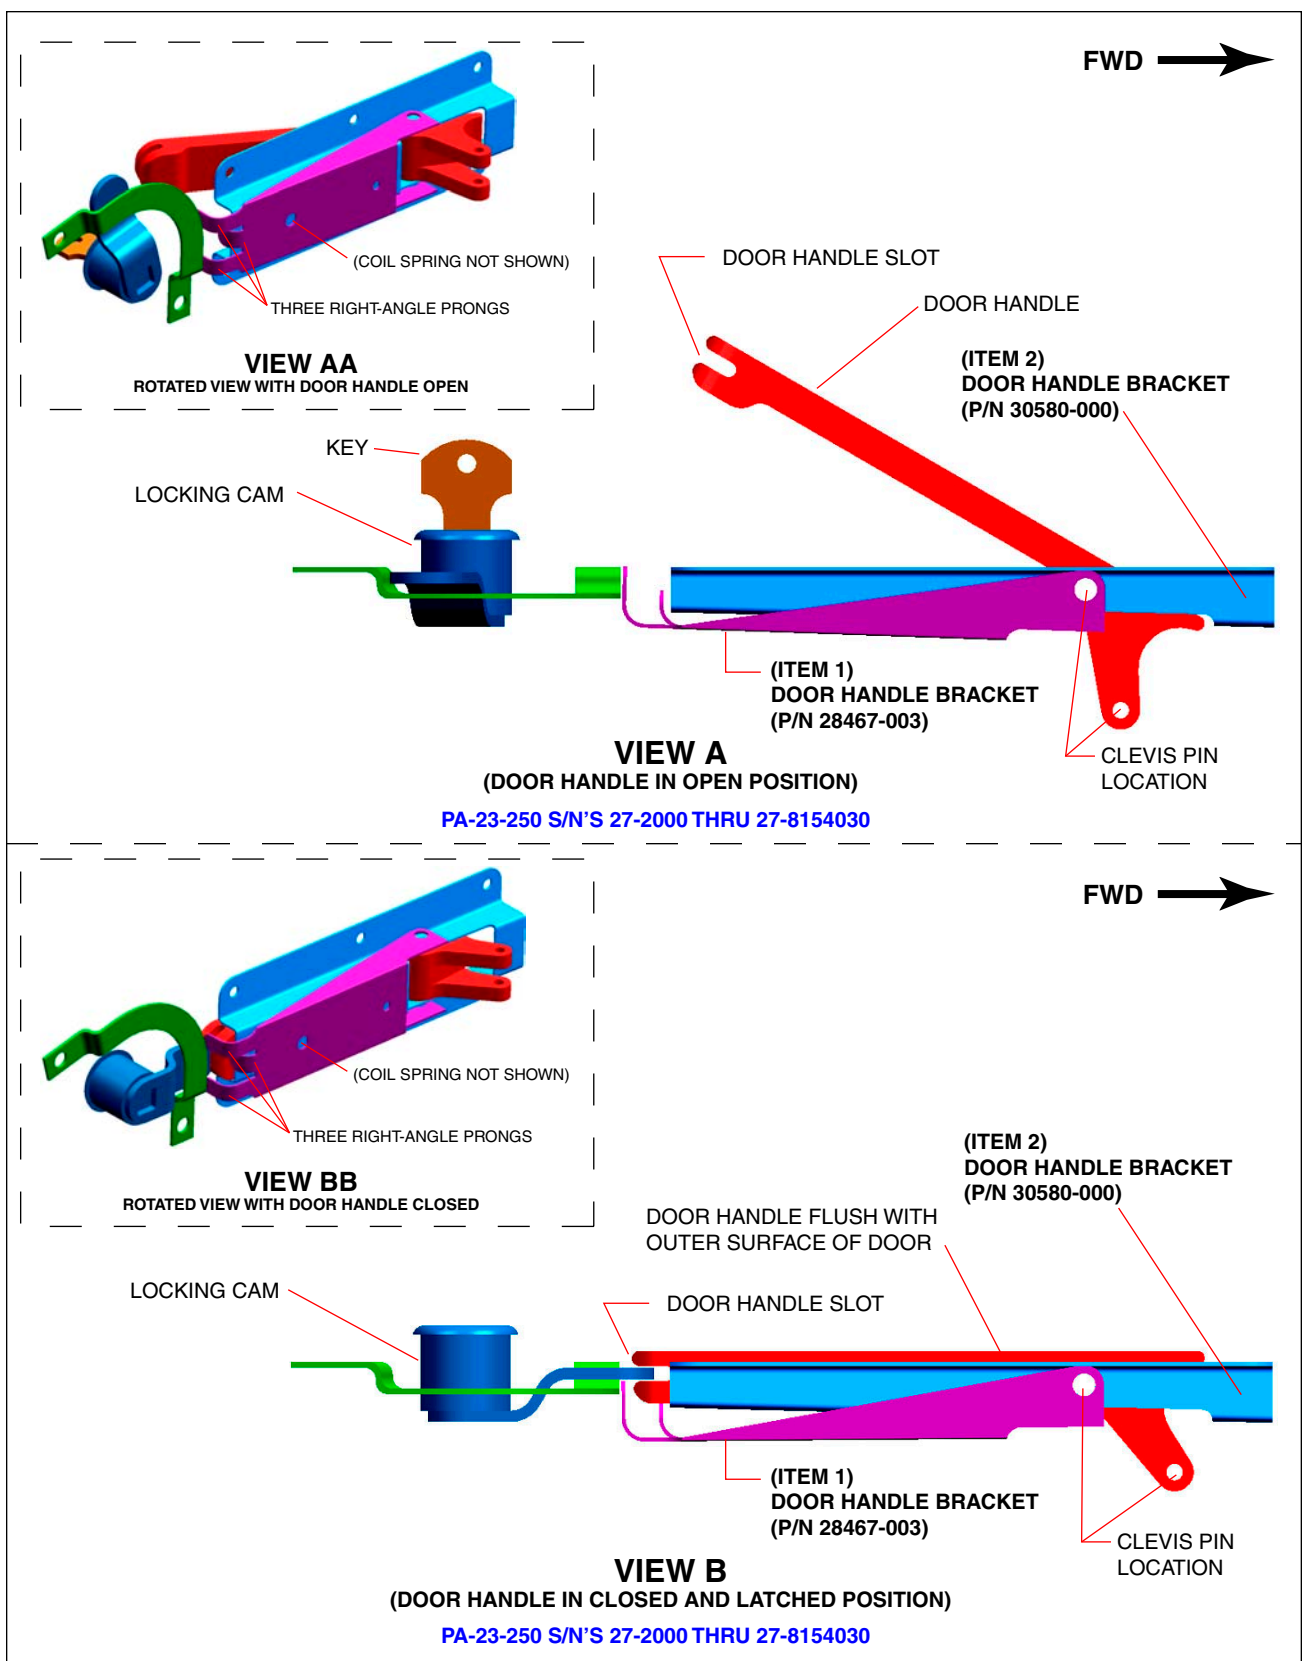

Figure 4-11a. Forward Baggage Door Latch Handle and Bracket Assembly
- (5) Verify door handle bracket, Figure 4-11a., Item 1, is installed over door handle bracket, Figure 4-11a., Item 2.